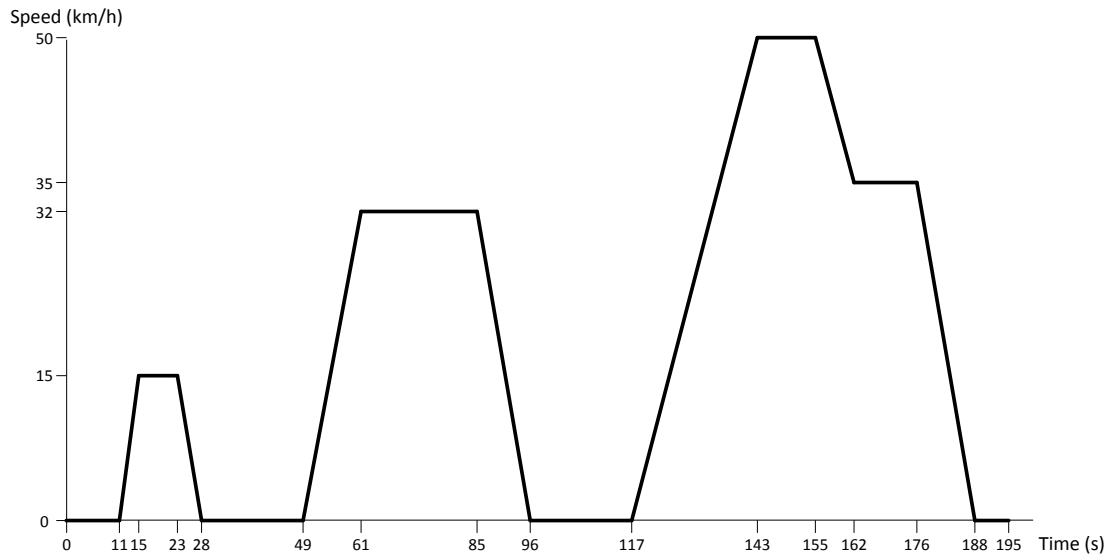

Fig. 12 ECE-15 (Urban Driving Cycle)
The Urban Driving Cycle, also known as ECE R15 cycle, is shown in Fig. 12. It has been designed to represent typical driving conditions of busy European cities for supporting the low car motor loading. When the drive runs, the vehicle pauses for 11 s, then accelerates slowly to 15 km/h in 4 s, cruises at the constant speed for 8 s, brakes to a full stop in 5 s, and then stays immovable for 21 s. At 49 s, the vehicle accelerates slowly to 32 km/h in 12 s, cruises for 24 s, brakes slowly to a full stop in 11 s, and
5. Using the speed pedal, try to reproduce the ECE-15 Cycle shown in Fig.12. To this aim, run the testing drive, monitor it, and save the traces. Then stop the drive.